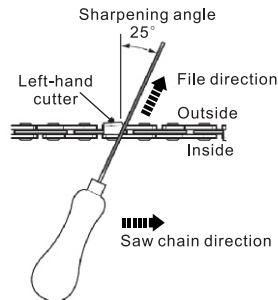

Fig. 23b
6). File at an angle perpendicular to the bar, and at an angle of 25° to the direction of travel. (See Fig. 23b)